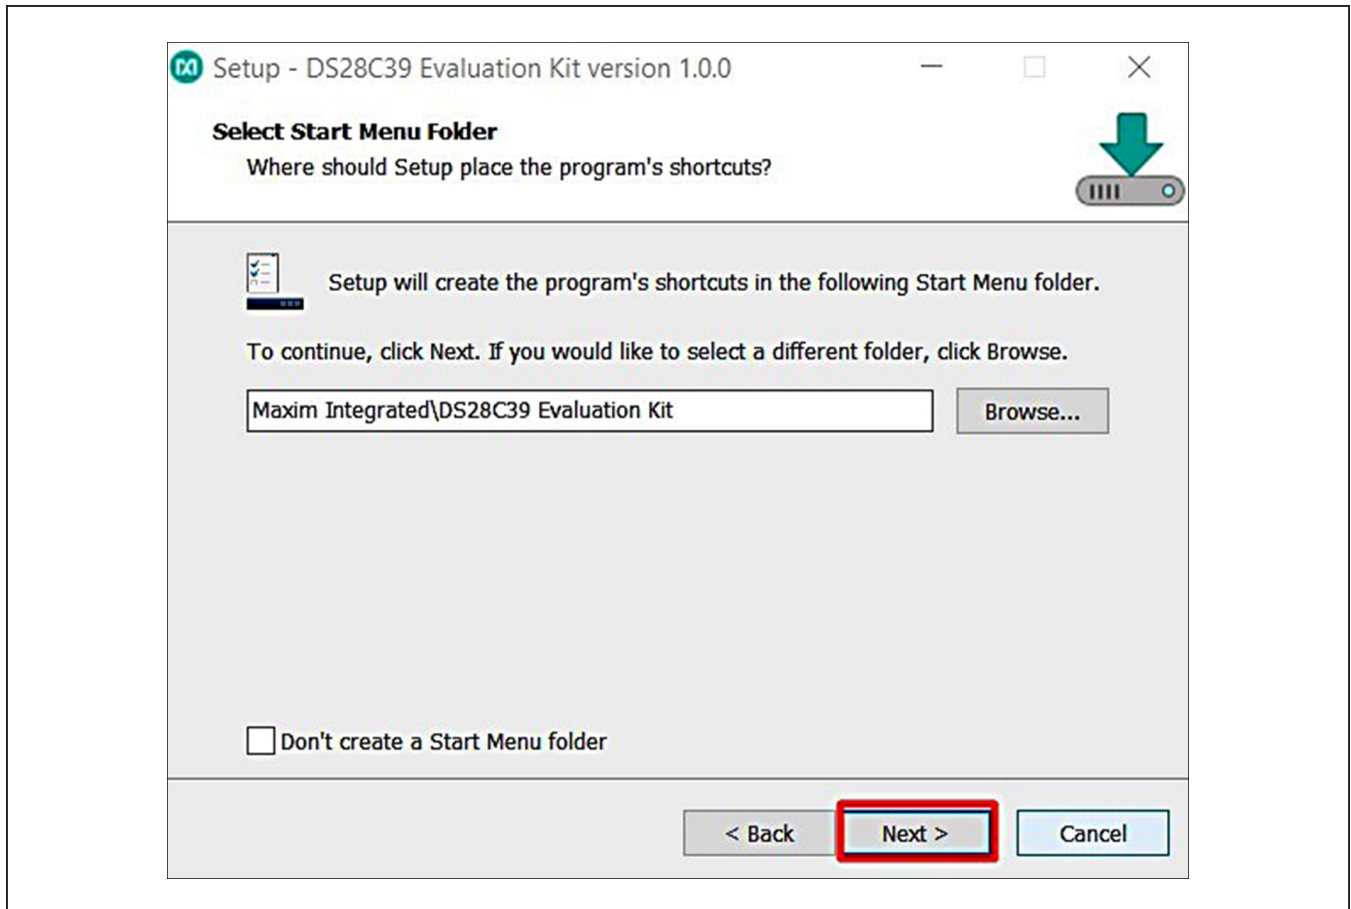

Figure 3. Program Shortcuts Location
- 4) Click **Next** to install shortcuts to the default folder (Figure 3).